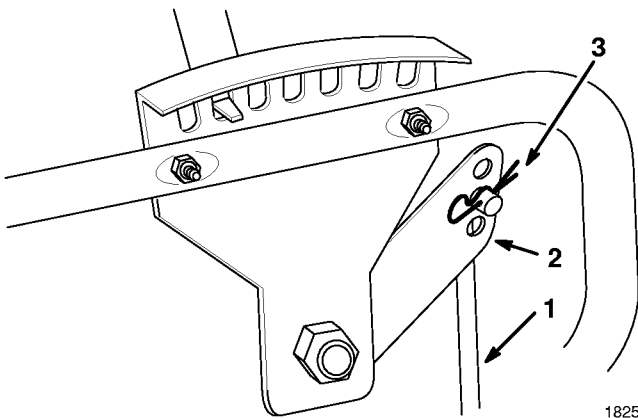

Figure 5
5. Secure upper end of height control rod to height adjustment handle with hair pin cotter (Fig. 5).